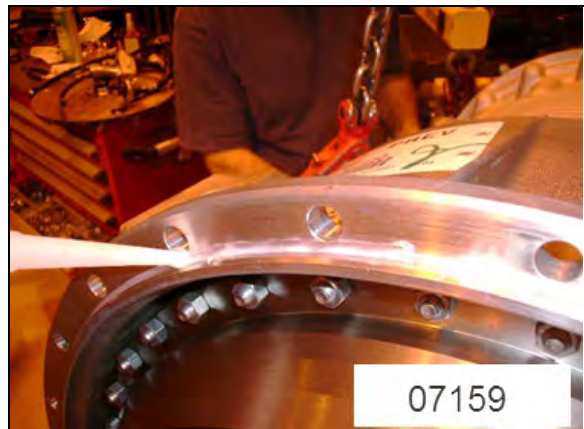

FIGURE 12: SILICONE APPLICATION TRANSMISSION HOUSING
8. Apply clear silicone (Prevost #680457 or equivalent) around the edge of the transmission housing (Figure 12).